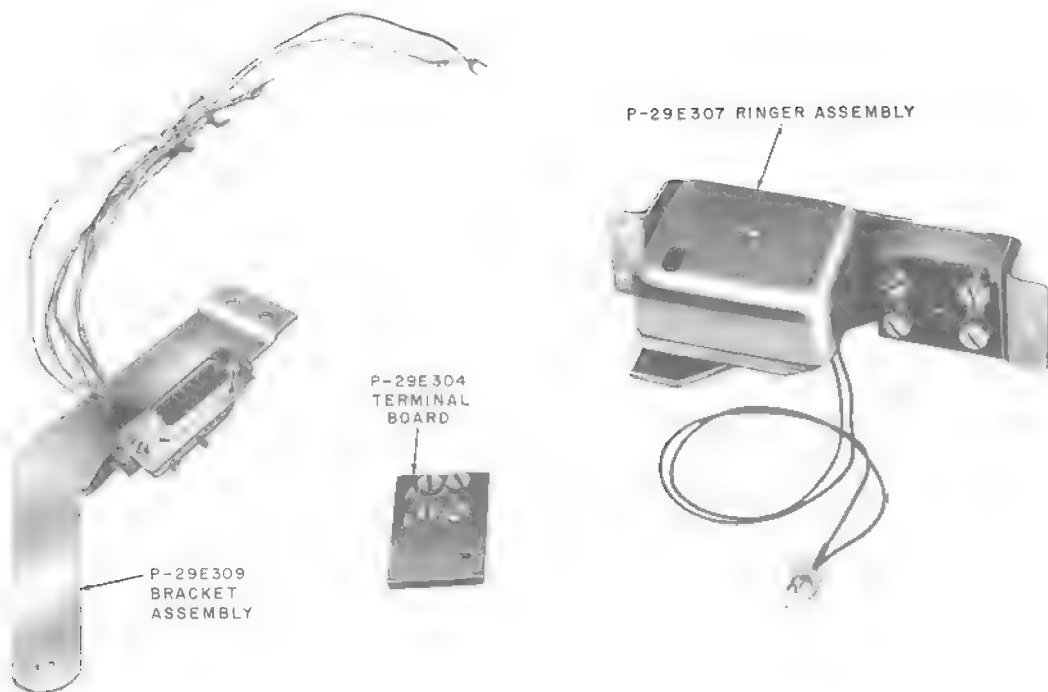
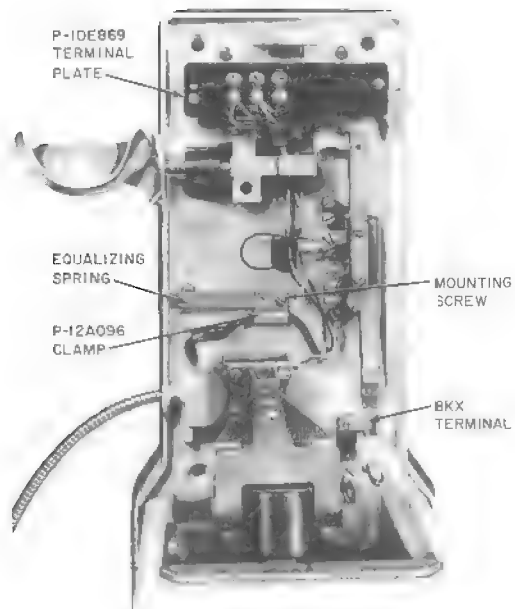

Fig. 68—D-180120 Kit For Modification of Backplate Assembly
Fig. 69—Backplate Assembly With D-180120 Kit
- 7.02** The D-180120 kit to be installed in the field consists of P-29E307 ringer assembly, P-29E309 bracket assembly, and P-29E304 terminal board (Fig. 68).
- (1) Disconnect wires per Table M.
- (2) Remove subscriber set.
- (3) Disconnect (BK) wire from between BBX of switchhook and BE of transfer contacts.
- (4) Remove and discard terminal plate assembly at top of backplate assembly. Retain hardware.
- (5) Install P-29E307 ringer assembly (Fig. 68) in same position as terminal plate assembly was located using the retained hardware (Fig. 69).
- (6) Remove and discard BKX transfer spring at right of coin relay. Retain mounting screw.
- (7) Remove and retain equalizing spring, cord clamp, and associated fastener.
- (8) Install P-29E309 bracket assembly (Fig. 68) to backplate per Fig. 69. Use mounting screw retained in (5) to secure bracket assembly at bottom.
- (9) At top of bracket assembly, assemble in order from backplate out, equalizing spring, cord clamp, and P-29E304 terminal board (Fig. 68). Secure with hardware retained in (6) (see Fig. 69).
- (10) Route wires through cord guides where applicable and connect per Table N.
- (11) Insert plug of upper housing, which was modified in the Distributing House, in connector on backplate and install upper housing.
- (12) Check continuity, coin handling, and ringing operation of the coin collector.